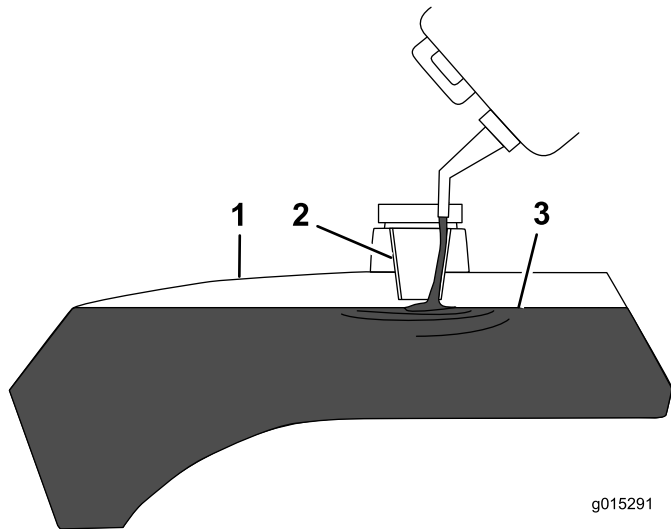
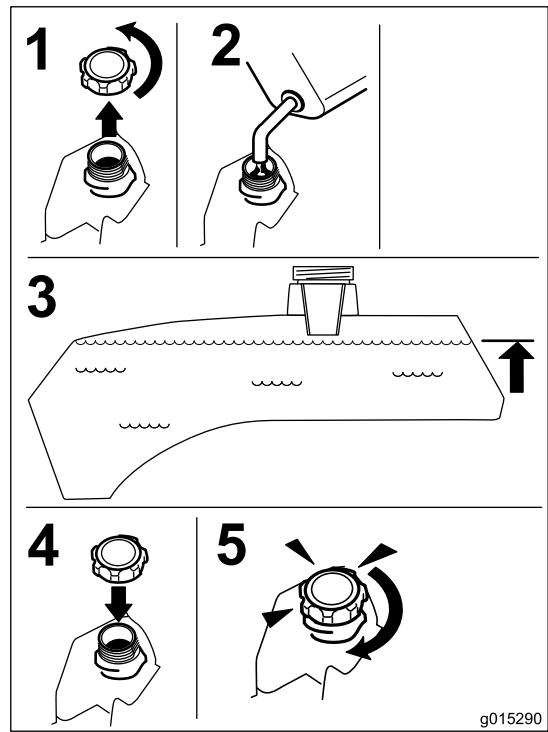

Figure 7
Figure 8
3. Add unleaded regular gasoline to both fuel tanks until the body of the tank is full but the fuel does not fill the neck of the tank (Figure 7 and Figure 8). This space in the neck of the tank allows gasoline to expand. Do not fill the fuel tanks completely full.